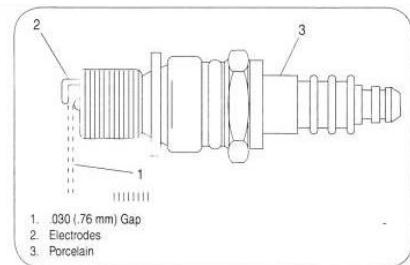

Figure 31
4. Check electrode gap with a feeler gauge and set gap to 0.030(0.76mm)if necessary. see Figure 31.